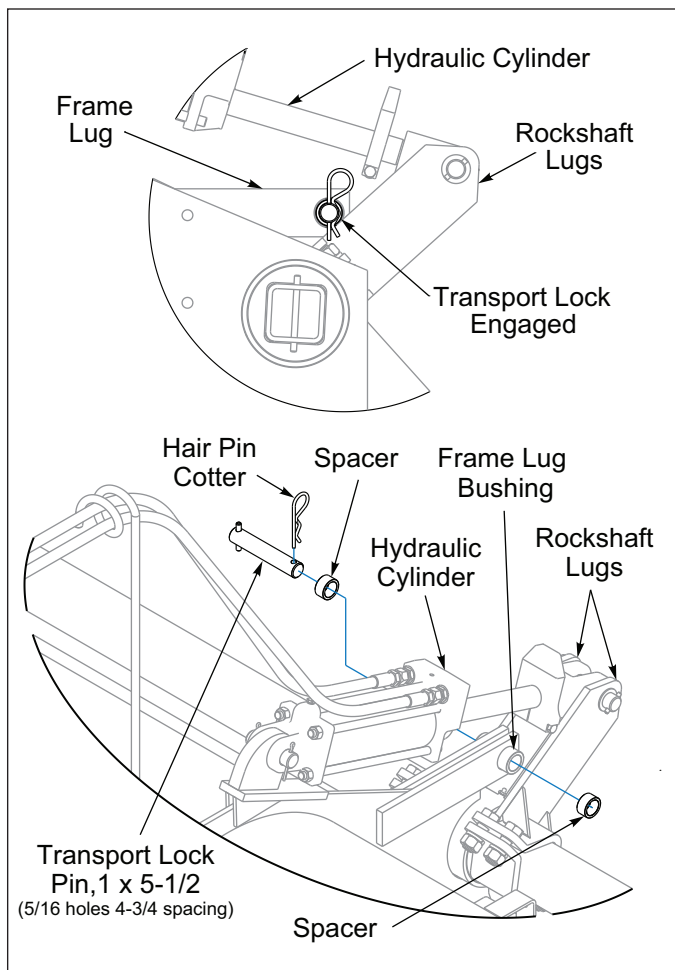

Figure 2-13: Transport Lock Engaged
6. Raise the Flail Shredder and install Transport Lock. **See Figure 2-13.**